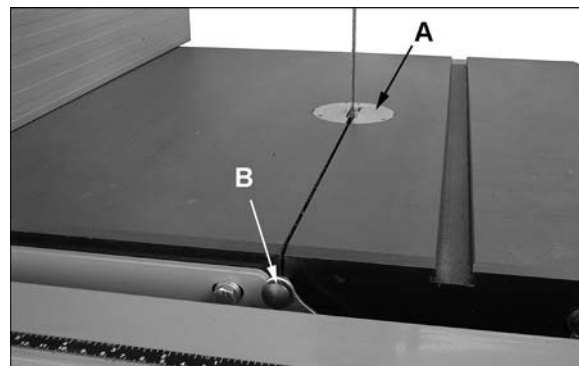
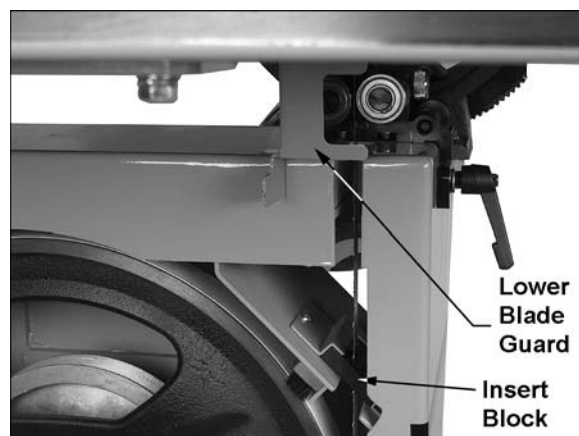

Figure 23
Figure 24
Refer to Figures 23 and 24.
2. Remove the *table insert* (A, Figure 23).
3. Pull out *table pin* (B) at the end of the slot.
6. Open upper and lower doors by rotating the door catches. Open the lower blade guard and slide out the insert block (Figure 24).